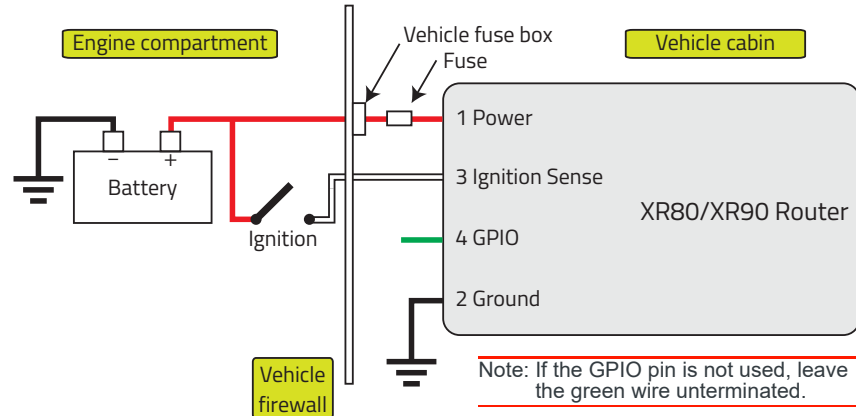

Figure 2-12: Vehicle Installation Wiring Diagram—Recommended Basic Method
6. Use a 15–20 A, fast blow fuse, recommended to have no more than  $\pm 10\%$  derating over the operating temperature range, to connect the red (Power) wire on the DC power cable to the vehicle's fuse box. (See Figure 2-12.)
For most vehicle installations, Sierra Wireless recommends connecting the white Ignition Sense wire to the vehicle's ignition switch, as shown in Figure 2-12.